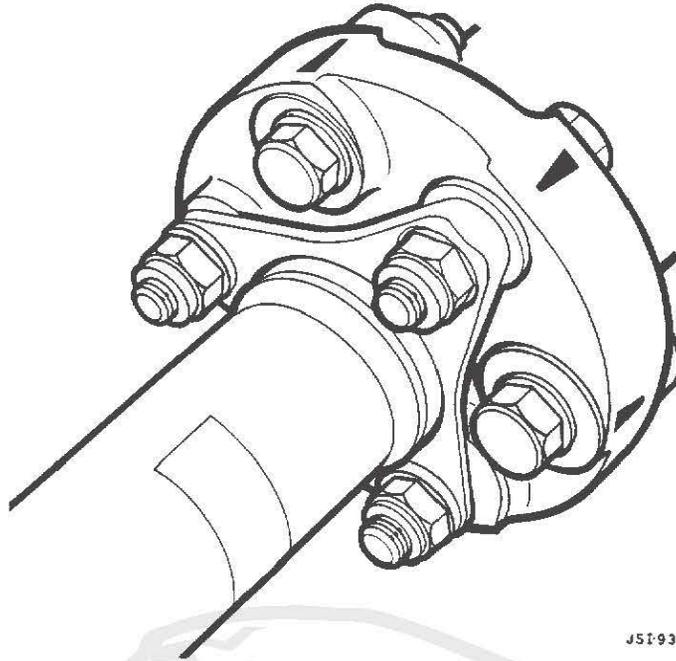

FIG 1
- Align the moulded arrows on the circumference of the coupling with the propshaft and pinion flange arms as shown in Fig 1.